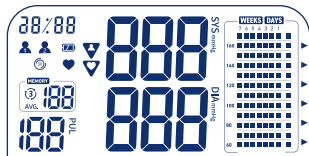

Figure 1
- Switch on the device by pressing the Start/Stop button. The full display is shown (Figure 1).